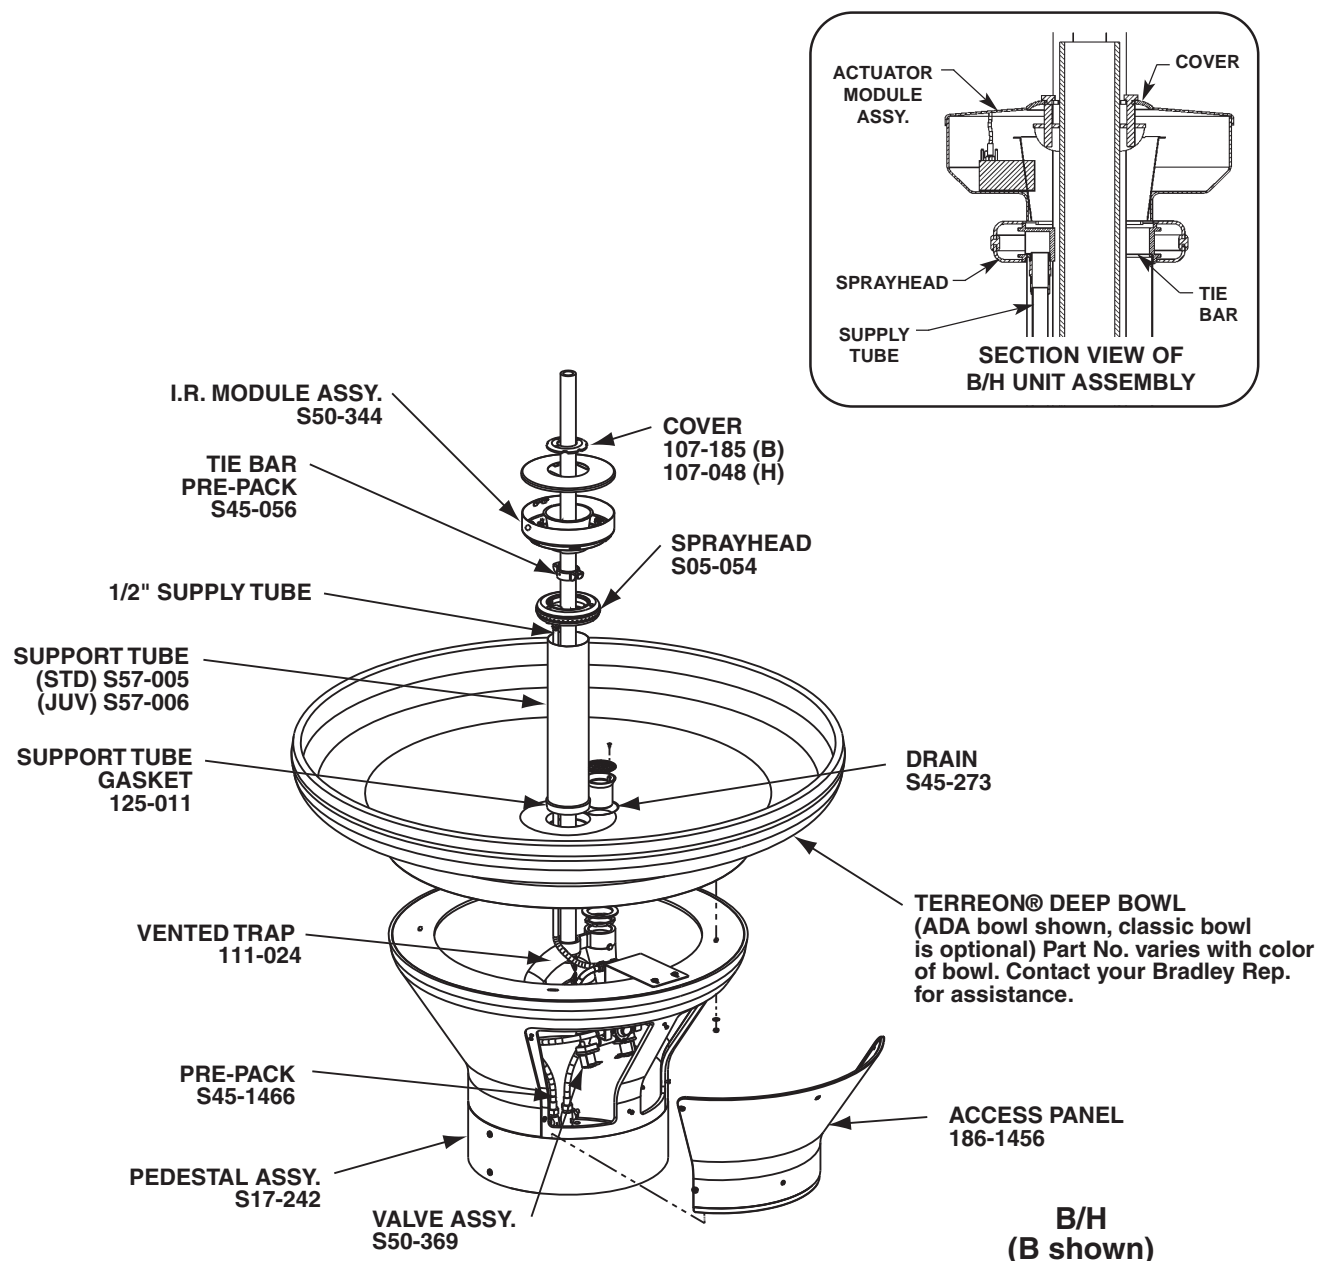
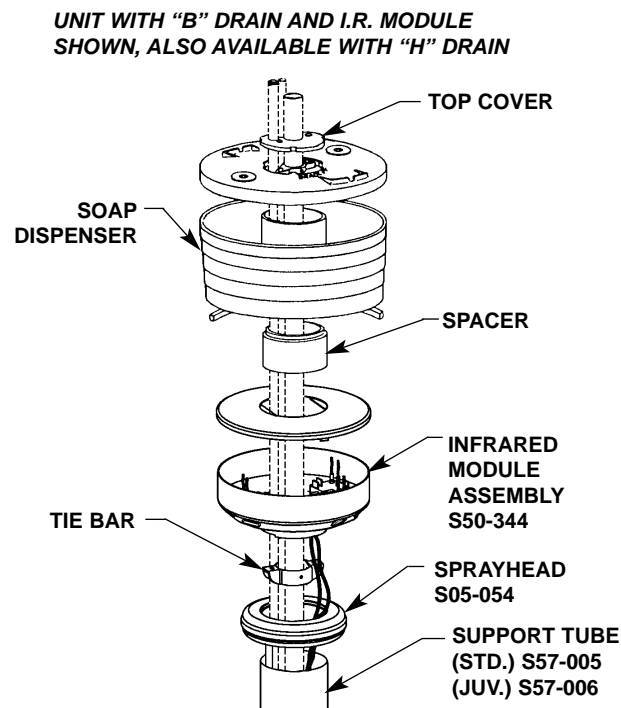

Figure 8
Figure 9
- A** INSTALL HEMMED END (NOT SHARP END) OF SUPPORT TUBE WITH GASKET ONTO BOWL (SEE FIGURE 8).
E POSITION THE UPPER TIE BAR SLIGHTLY BELOW THE MODULE (SEE FIGURE 8 INSET ON PREVIOUS PAGE) OR SOAP DISPENSER (SEE FIGURE 9) AND FASTEN SECURELY TO VENT PIPE WITH SET SCREWS PROVIDED. SECURE TOP COVER TO TIE BAR WITH TWO CAP SCREWS PROVIDED.